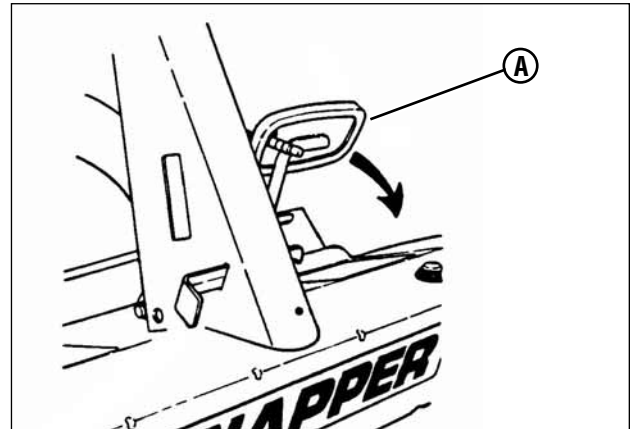

Figure 5: Engaging the clutch/brake pedal
3. Press the Clutch/Brake Pedal (A, Figure 5) all the way down and hold while starting the engine.